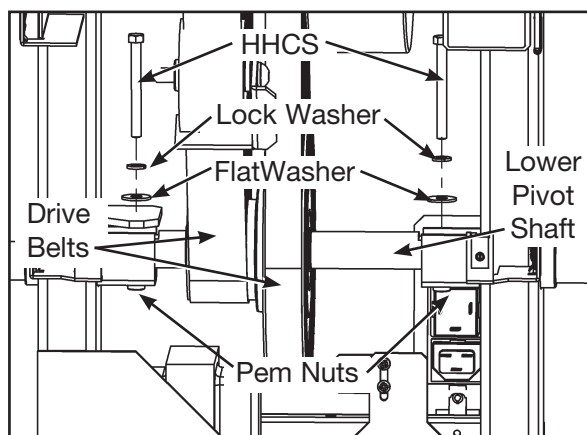

Figure 8
- A. Using a 7/16" socket wrench with a 3" extension, remove the two HHCS, two lock washers and two flat washers from the lower pivot shaft. See Figure 8.
- C. Strike the HHCS head with a metal hammer to brake the pem nut free from the bracket and discard. See Figure 8.